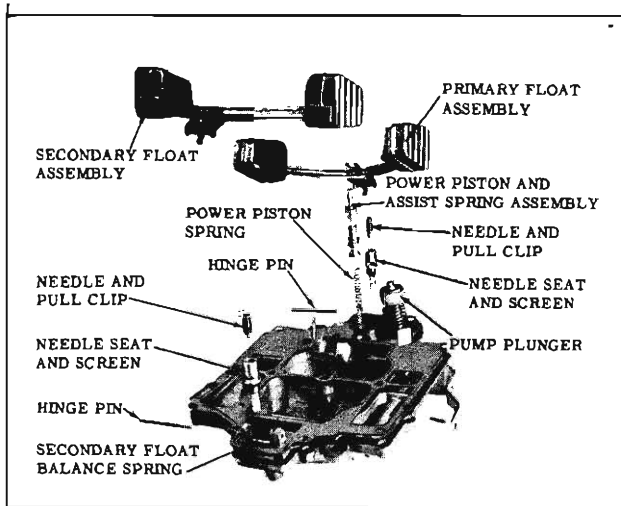

Fig. 4-8 Air Horn Assembly
10. Remove the hinge pin from the primary float assembly, then slide the float and needle away from the power piston stem. (Fig. 4-8)